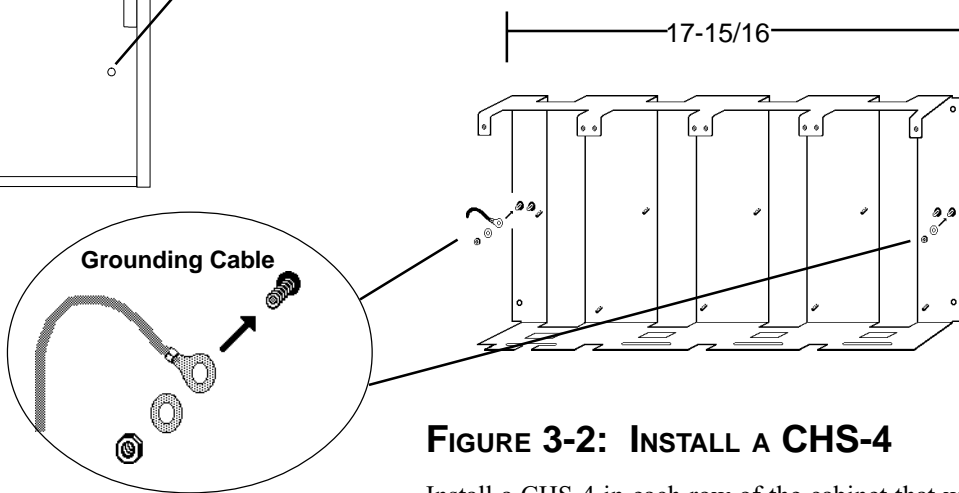

FIGURE 3-2: INSTALL A CHS-4
- Chassis**- Mount all chassis. Refer to Figure 3-2 for installation of the CHS-4 chassis.